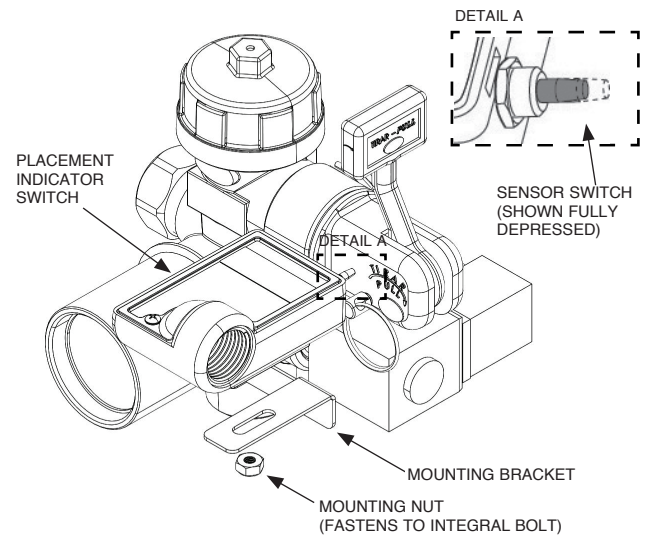
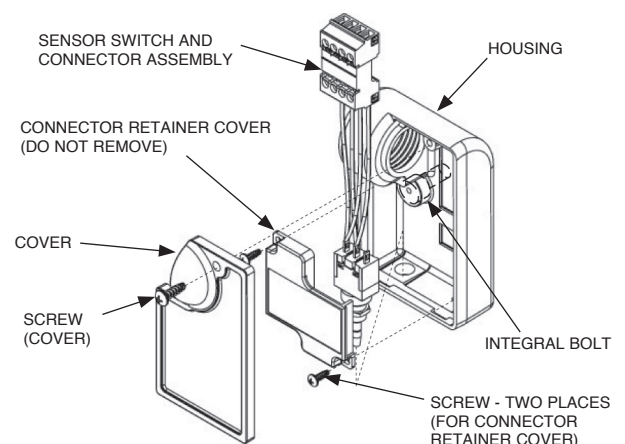

FIGURE 6-37
FIGURE 6-38
4. Secure the mounting bracket to the placement indicator switch housing using the nut provided. See Figure 6-37. The nut secures to the integral bolt on the placement indicator switch. See Figure 6-38. Leave the nut slightly loose for adjustment later.
5. Adjust the horizontal position to ensure the sensor switch is fully depressed. See Figure 6-37, Detail A.
- a. Remove the cover of the placement indicator switch using the appropriate screwdriver. See Figure 6-38.